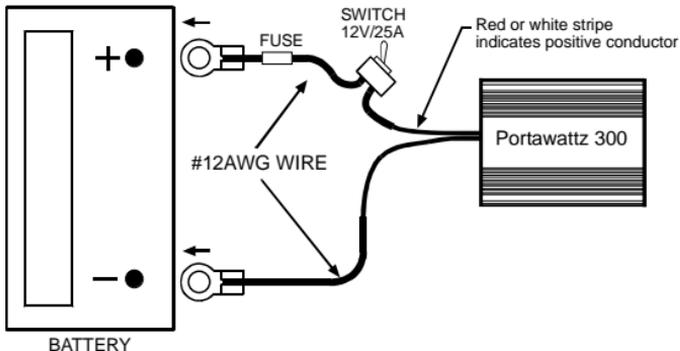

Figure 2. Direct Connection to Battery
4. Install a 30 Amp fuse, and a switch rated at 25 Amps in line with the positive wire, as close as possible to the end that attaches to the battery. The switch is a necessary requirement to ensure no sparking occurs when connections are made to the battery. Solder and insulate the connection as detailed in step 3 above. Set the switch to the OFF position. See Figure 2 for full details.